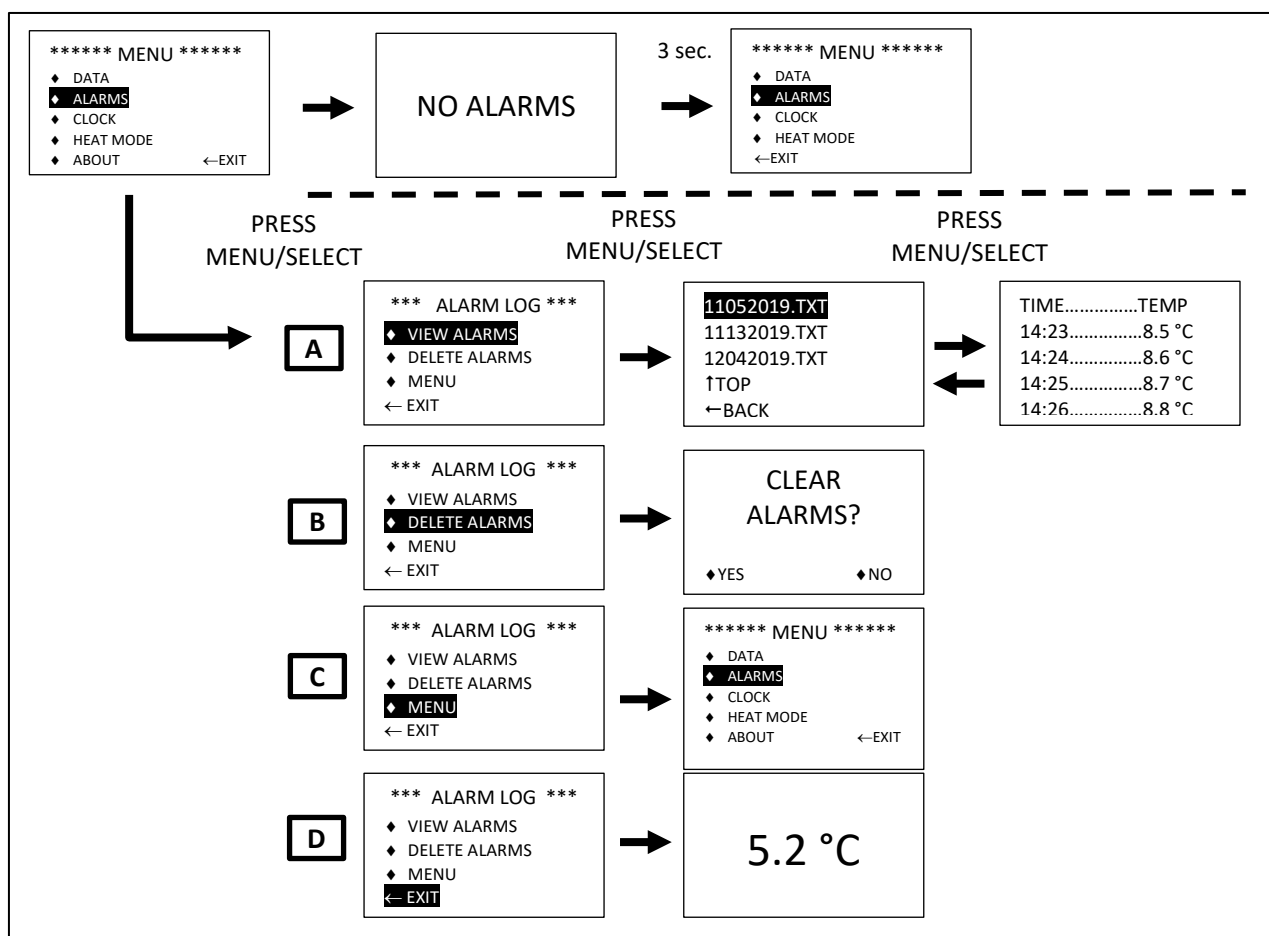

Figure 16: xFridge Alarm Log Menu
To access the ALARM LOG, press MENU/SELECT and use the ▲ and ▼ to highlight “ALARMS” then press MENU/SELECT again. This will bring up a menu with the ability to VIEW or DELETE files as shown in Figure 16. If there are no alarms, the screen will inform the user and return to the main Menu. More information on Alarms can be found in Section 2.3.2.
- To VIEW files, use the ▲ and ▼ buttons to highlight “VIEW ALARMS” and press MENU/SELECT button (Refer to Figure 16 Row A). Use the ▲ and ▼ buttons to highlight desired file and press MENU/SELECT. This will open the alarm log for that date. Press MENU/SELECT again to return to the list. Highlight and MENU/SELECT “TOP” to jump to the first file or “BACK” to return to the ALARM LOG menu.
- To DELETE files, use the ▲ and ▼ buttons to highlight “DELETE ALARMS” and press MENU/SELECT button (Refer to Figure 16 Row B). This will navigate to a screen for the user to confirm the selection. Press the MENU/SELECT to confirm and DELETE all Alarm data files OR press the ▼ button to return to the ALARM LOG menu and leave the Alarm files stored in memory.
- To return to the MENU, use the ▲ and ▼ buttons to highlight “MENU” and press MENU/SELECT (Refer to Figure 16 Row C).
- To return to Temperature Display Mode, use the ▲ and ▼ buttons to highlight “EXIT” and press MENU/SELECT (Refer to Figure 16 Row D).